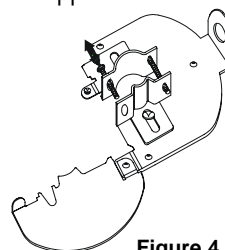

Figure 4
Step 4 – Tighten the Strain Relief Fitting & Close the Terminal Cover. (Figure 4)